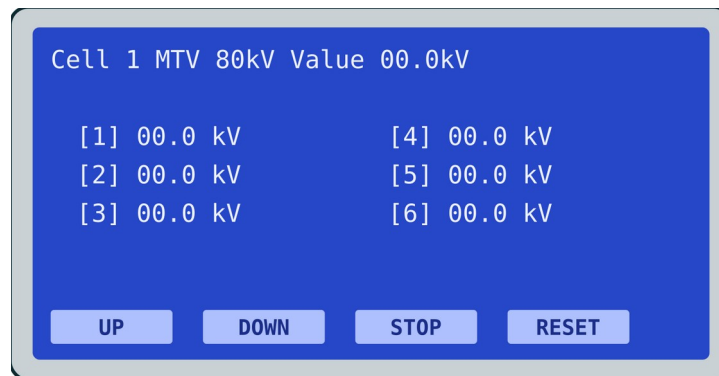

Figure 7 Manual mode, ready
1. On the start screen press Setup, move the tick to manual and press OK (Figure 7).